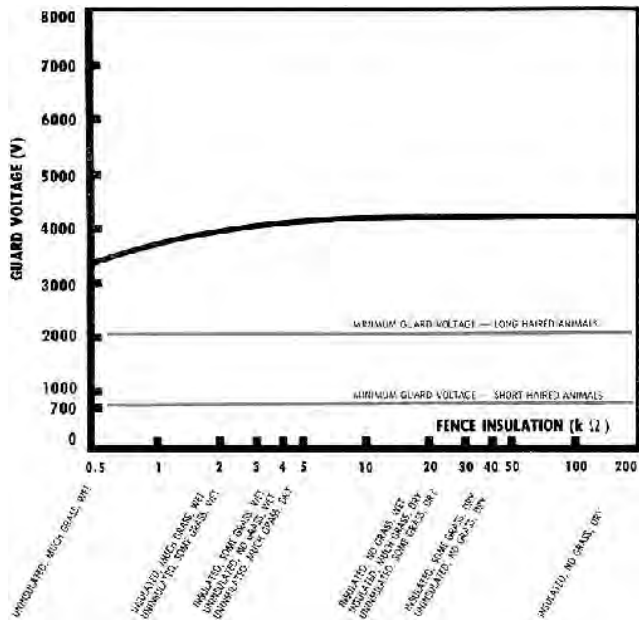

FIGURE 1. Guard Voltage Produced on a 5.4 km Single Wire Fence.
**Peak Voltage Output:** FIGURES 1 and 2 show peak voltage outputs of the BEE 7721 for a 5.4 and 16 km (3.3 and 10 mi) lengths of single wire fence over a range of insulation resistances. On a 5.4 km (3.3 mi) fence (FIGURE 1), peak voltage output varied
from 4220 V for a well-insulated, grass-free, dry fence to 3390 V for an uninsulated, wet fence with considerable grass touching the charged wire. The voltage output for all fence conditions, was well above the 2000 V minimum guard voltage needed for long-haired animals. From FIGURE 1, it can be seen that the BEE 7721 can be satisfactorily used on this length of fence without wire insulators.
As can be seen from both FIGURES 1 and 2, plant growth touching a fence did not appreciably affect controller performance, since the voltage output was above 2000 V for all fence conditions. The BEE 7721 can be expected to operate well over a wide range of fence conditions.